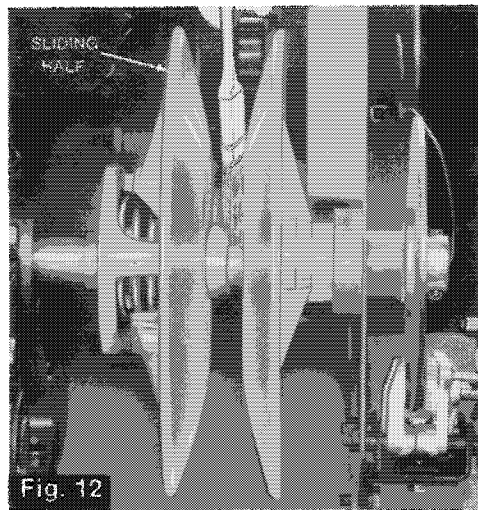

Fig. 12
2. Apply light coating of low-temp grease on the shaft. Activate the sliding half several times to distribute grease over full length of shaft. (See Fig.12). Be careful that grease does not get onto inner halves of the pulley.